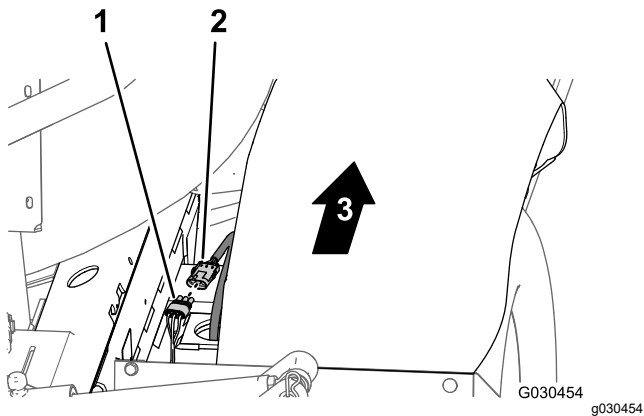

Figure 22
1. At back of the machine (between the right frame tube and the right fender) disconnect the 3-pin connector of the speed-sensor harness at the right hydraulic-traction motor from the 3-socket connector of the rear, main harness (Figure 22).